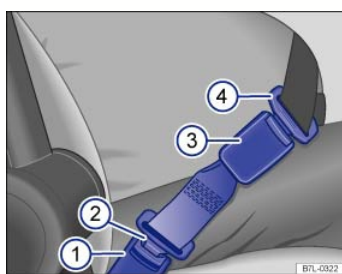

Fig. 35 A safety belt extender properly attached to the factory-installed safety belt.
Key to ⇒ **Fig. 35** :
- Insert the buckle tongue on the safety belt extender ⇒ **Fig. 35②** into the vehicle belt buckle for the seat where the safety belt extender is being used ⇒ **Fig. 35①**.